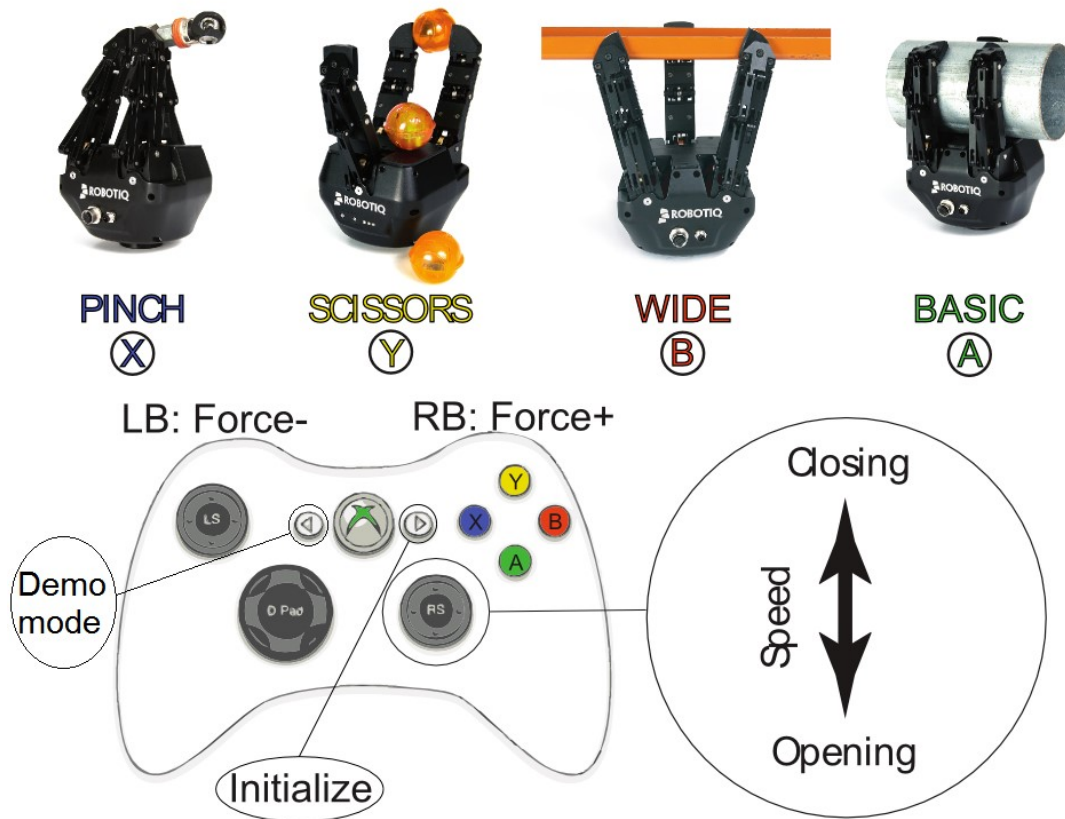

Fig. 5-2: Xbox Controls for the 3-Finger Adaptive Robot Gripper.
- **Xbox Joystick control** allows control of the Gripper using a remote Xbox controller (see Fig. 5-2: for a summary of the available controls).